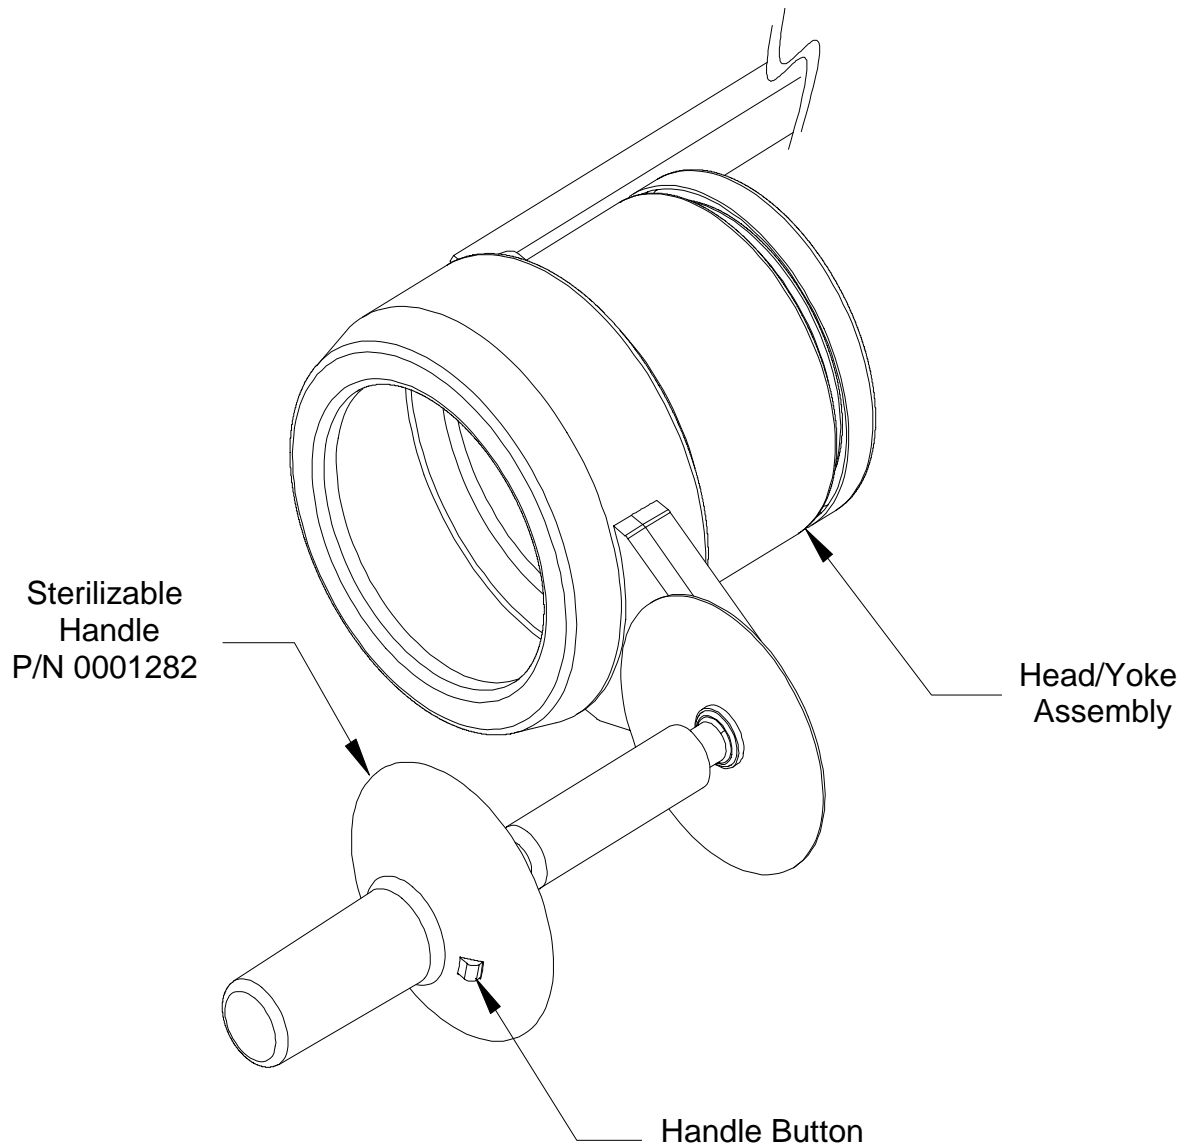

FIGURE 41: Handle Sterilization
- Remove sterilizable handle by pressing the button near the base of the handle and pulling the handle off the handle post (see figure 41).